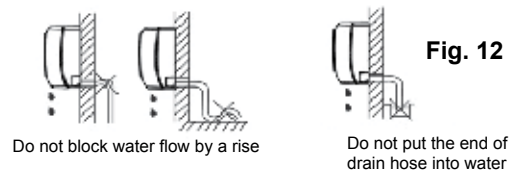

Fig. 12
- A. Run the drain hose sloping downward. Do not trap the drain hose. Do not install the drain hose as illustrated in Fig.12.